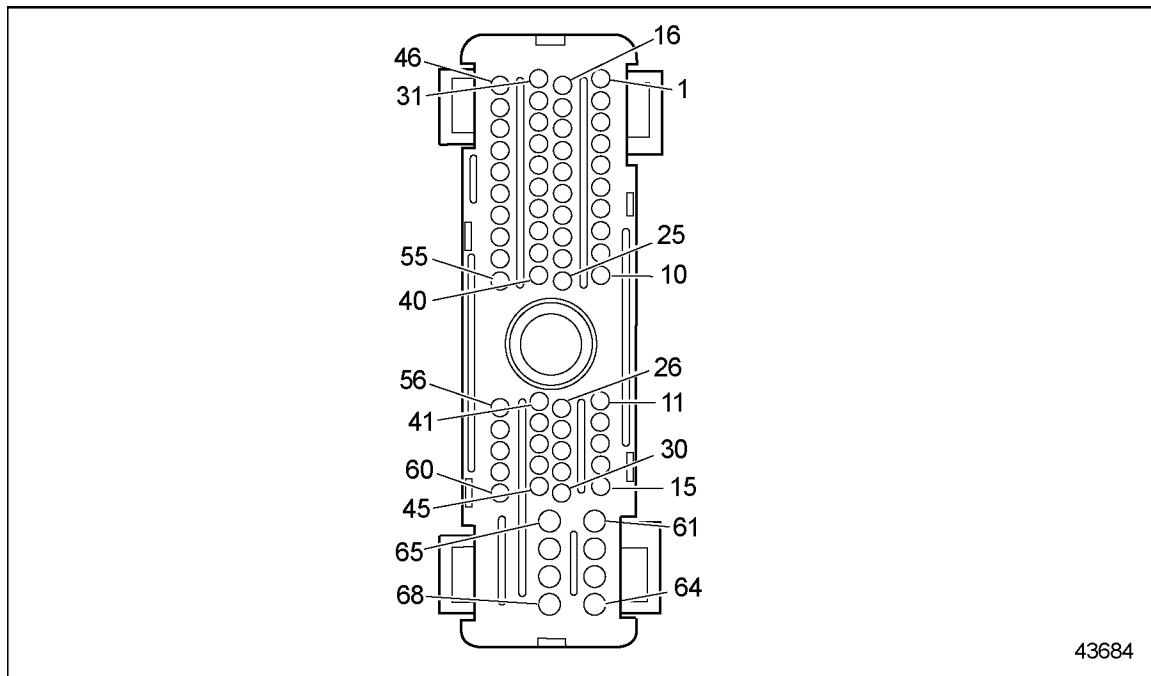

Figure 50-5 Engine Harness Connector
1. Check cavity E-22 at the EH connector. See Figure 50-5.